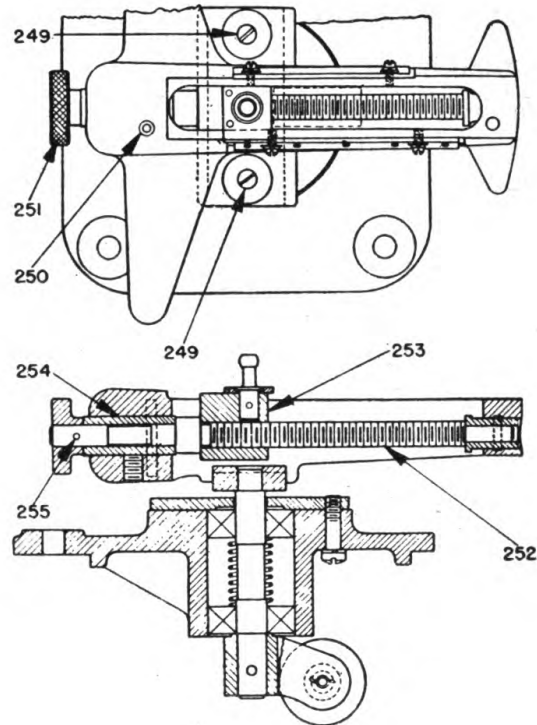

FIGURE 13.
*c.* If target speed setting screw turns with difficulty, proceed as follows. With the pantograph off, remove the course indicator (miniature airplane) from the speed corrector assembly, figure 13, by removing two screws 249. Drive out pin 250 by tapping the end